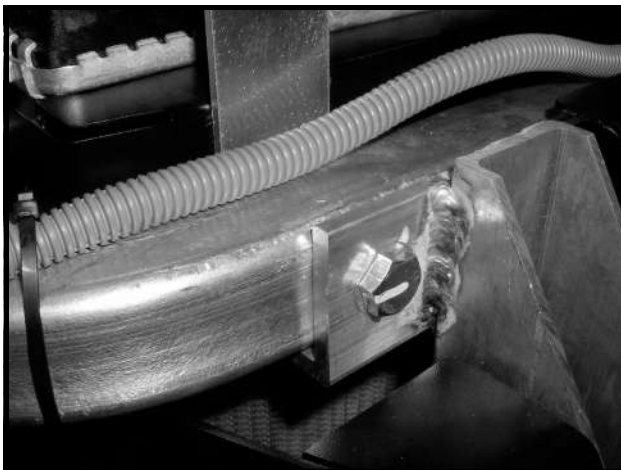

Figure 15-8 Radiator Bracket Front Frame Mount
11. Remove the two bolts, locknuts, and washers from the outside upper radiator mount bracket at the front frame guard tube. Remove the brackets (**Figure 15-8, Page 15-6**).
- 8.1. Install two new bolts, washers, and new locknuts to secure the radiator front frame brackets to the frame tube (**Figure 15-8, Page 15-6**). Tighten the hardware to 37 ft-lb (50 N·m).